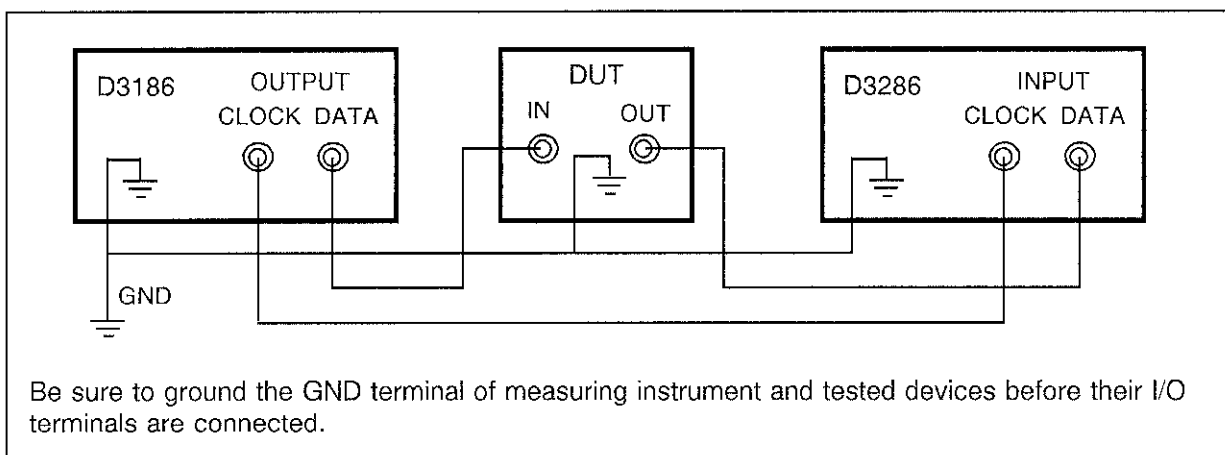

Figure 1-2 Grounding of Measuring Instrument and Tested Device
- (2) The output terminals for high-speed signal (MONITOR OUTPUT, TRIG OUTPUT, DIRECT ERROR OUTPUT) shall be loaded a 50 Ω pure resistance which is terminated at ground potential and shall not be applied a voltage.
- (3) Ground the device with the ground terminal on the device rear panel or the ground pin of the power plug. Also ground the housing of the devices which are connected to the I/O terminals of this device at the same potential (see Figure 1-2).